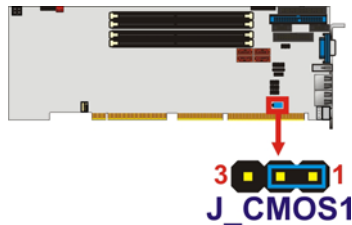

Figure 4-13: Clear CMOS Jumper Location
- Jumper Location:** See Figure 4-13